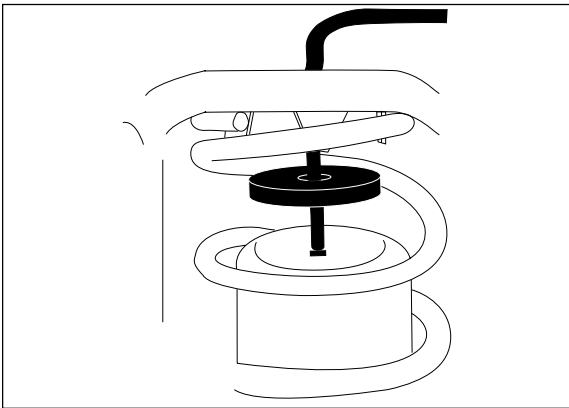

Figure 2
4. Push the cylinder to the bottom of the coil and insert protector at the top (Figure 2).